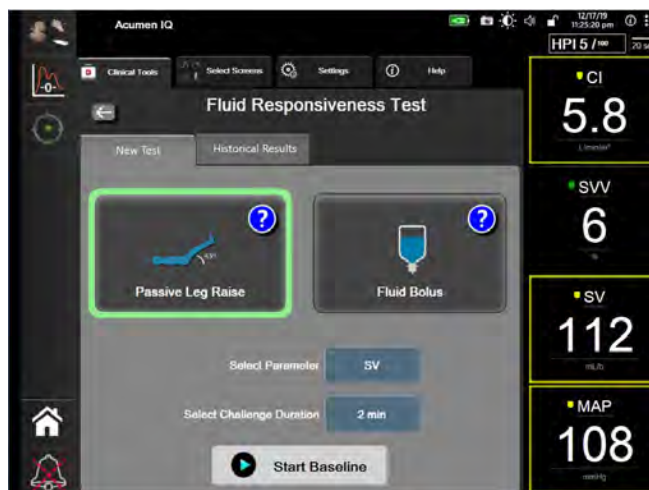

Figure 14-17 Fluid Responsiveness Test – New Test Screen
- 3 On the **New Test** tab (see Figure 14-17), touch the desired test type: **Passive Leg Raise** or **Fluid Bolus**.